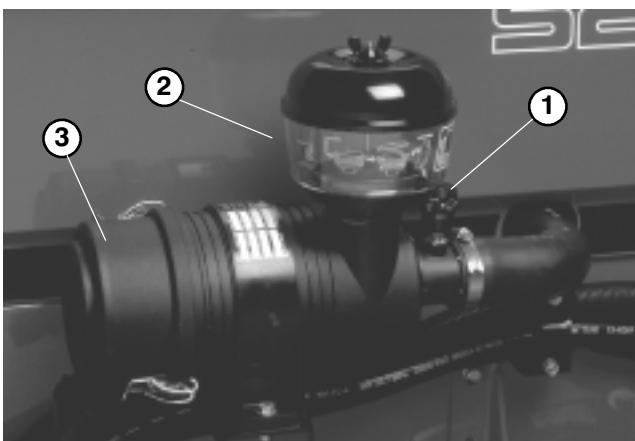

Figure 46
2. Service the air cleaner filters when ever air cleaner indicator (Fig. 46) shows red or every 400 hours (more frequently in extreme dusty or dirty conditions). Do not over service air filter.
### SERVICING PRECLEANER BOWL (Fig. 46)
- Reset indicator (Fig. 46) if showing red.